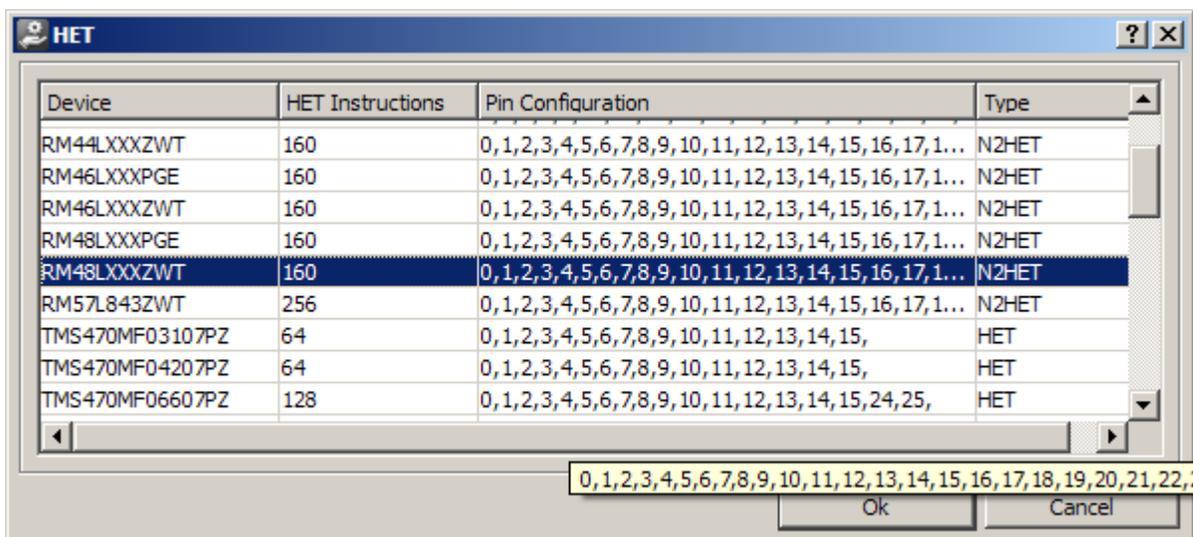

Figure 25. Selecting a Device From Device Configuration List
- (c) A list of supported Hercules devices will appear. Select the RM48LXXXZWT with N2HET and 160 words of instruction memory (see Figure 25). Then press OK.